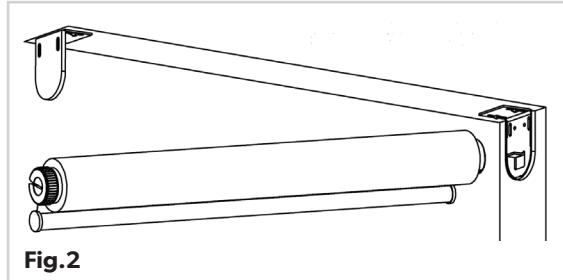

Fig.2
4. Next, position the shade so that the set screw component is on the right. (Fig.2)